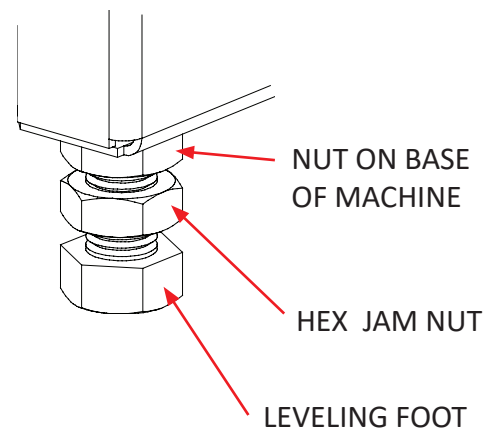

FIG. 8
2. The Grinder's four leveling feet (FIG. 8) are seated in countersunk holes in the pallet. With a fork lift or other power equipment, raise the grinder from the wood base and set it in its final position. Lift under bottom tray, forks must reach to the rear of the machine and extent past or the Grinder may be damaged while lifting.
Recheck the level in both directions. When satisfactory, tighten the hex jam nuts on the leveling feet securely against the nuts welded to the bottom of the base. See FIG. 8. Don't turn the leveling feet when tightening.